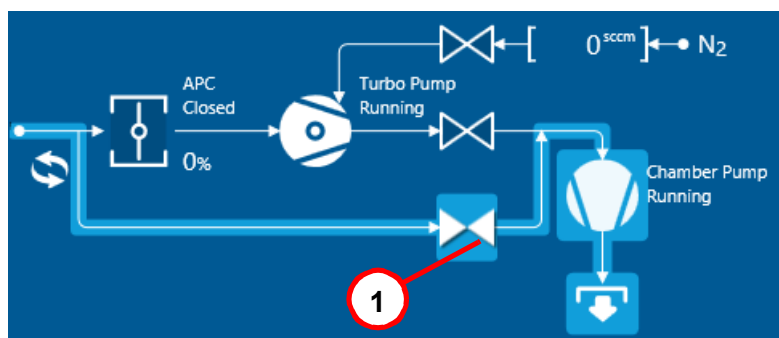

Figure 5-10 Chamber pump running
- 7 Close the APC and the Foreline valve. Open the chamber Roughing Valve (item 1 in Figure 5-10) and start the Chamber Pump.